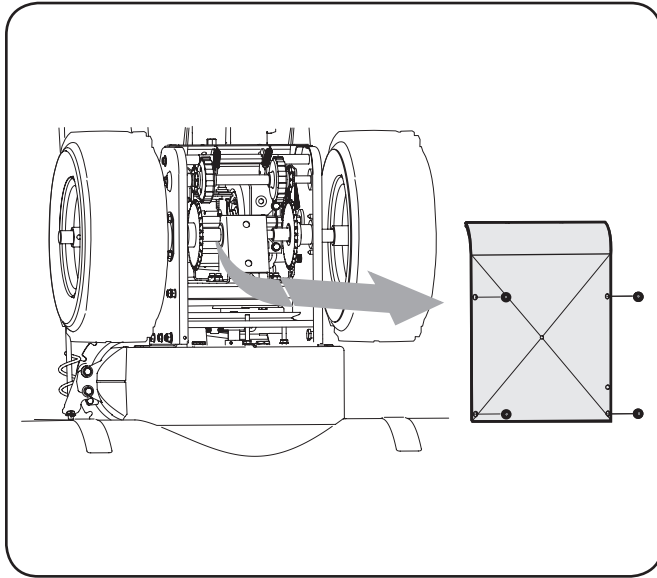

Figure 6-6
2. Remove the frame cover from the underside of the snow thrower by removing the self-tapping screws which secure it. Refer to Figure 6-6.
1. With the snow thrower tipped forward (be certain to drain gasoline), remove the frame cover underneath the snow thrower by removing the self-tapping screws. See Figure 6-6.